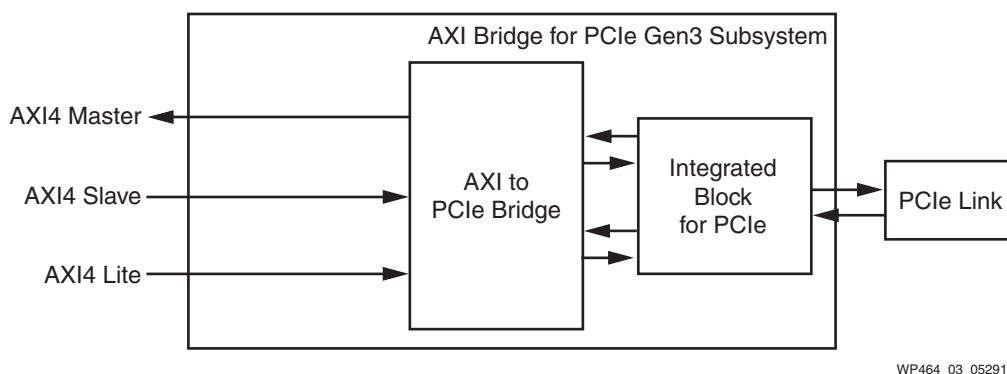

Figure 3: AXI4 Interface
2. **AXI4:** This is a memory-mapped interface for use with processor system based cores. This interface is the typical path for embedded designs. See Figure 3.